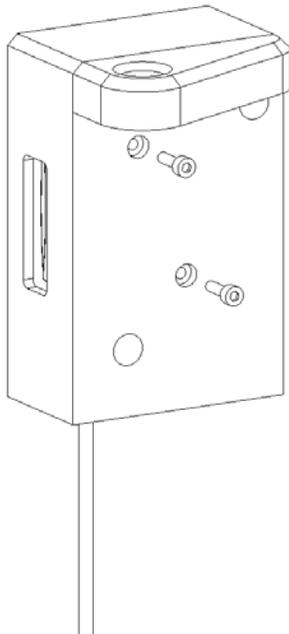
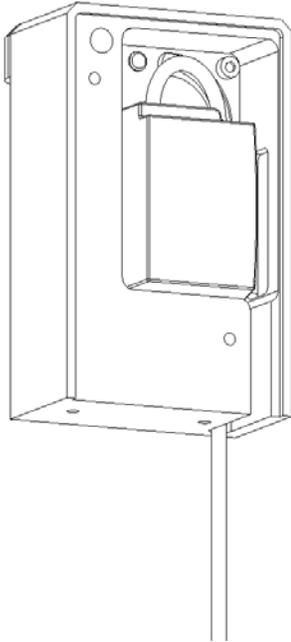

Figure 11-12: Laser Scanner Securing Screws
Figure 11-13: Front View Laser Scanner Assembly
8. Remove the two cap head screws that hold the Laser Scanner in position (Figure 11-12). The front view of the assembly is shown in Figure 11-13.